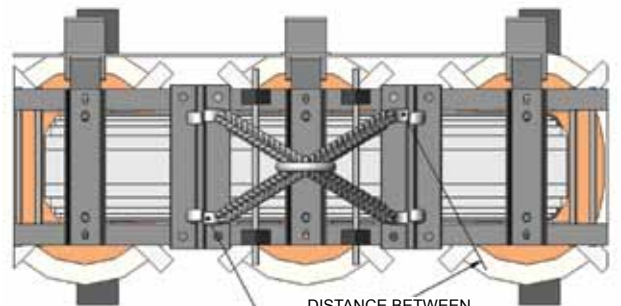
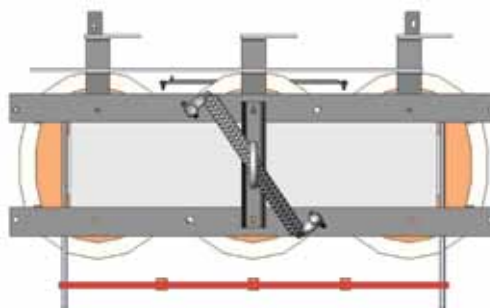

FIGURE 5
FIGURE 7
(6) The direction of the pull (sling line) must be in-line with the plane of the eye bolts. When lifting a transformer with a 4-legged sling, align all four eyebolts to the center of the unit (see figure 5). When lifting a unit with a 2-legged sling, ensure that the eye bolts are installed at opposite corners of the unit and align to the center of the unit (see figure 7).